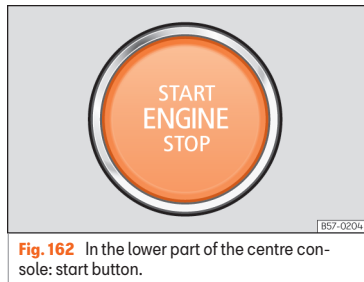

Fig. 162 In the lower part of the centre console: start button.
When entering the vehicle, the start button »» **Fig. 162** flashes to draw attention to it.
- Press the starter button »» **Fig. 162**; do not press the accelerator. There needs to be a valid key inside the vehicle for the engine to start. After starting the engine, the lighting of the **START ENGINE STOP** button remains fixed indicating that the engine is running.
- Briefly press the start-up button  **Fig. 162.**